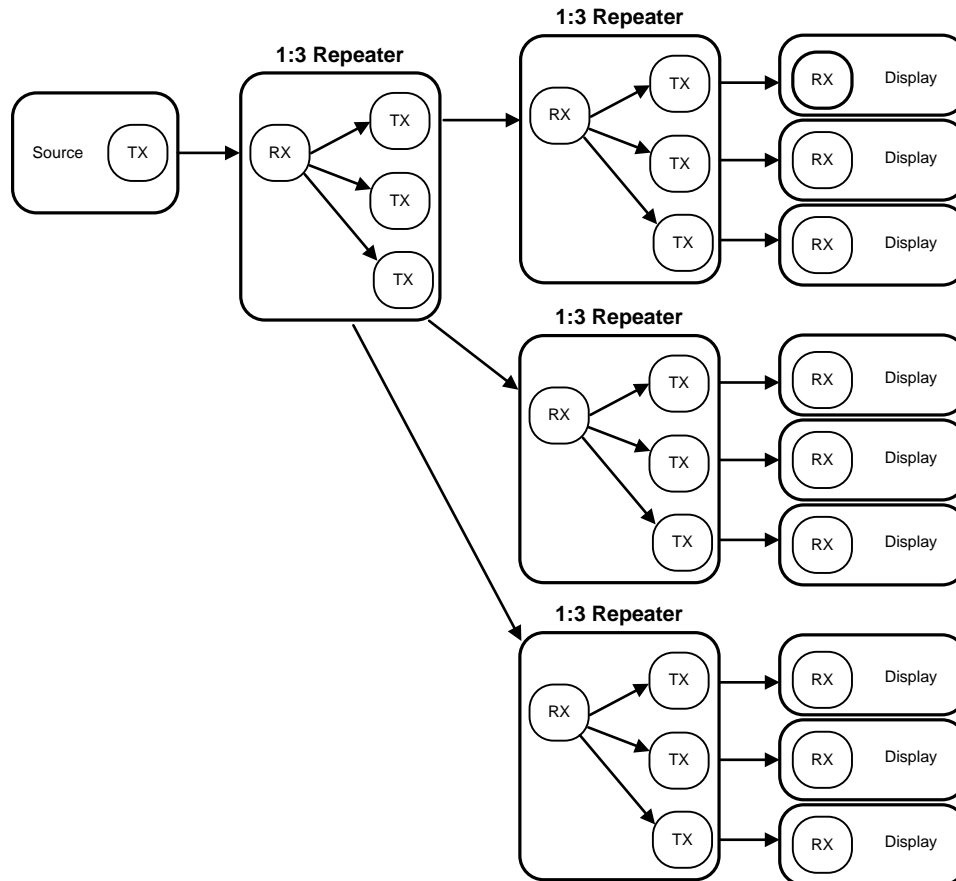

Figure 20. HDCP Maximum Repeater Application
In this document, the DS90UH925Q-Q1 is referred to as the HDCP Transmitter or transmit port (TX), and the DS90UH926Q-Q1 is referred to as the HDCP Receiver (RX). Figure 20 shows the maximum configuration supported for HDCP Repeater implementations using the DS90UH925Q-Q1 (TX) and DS90UH926Q-Q1 (RX). Two levels of HDCP Repeaters are supported with a maximum of three HDCP Transmitters per HDCP Receiver.